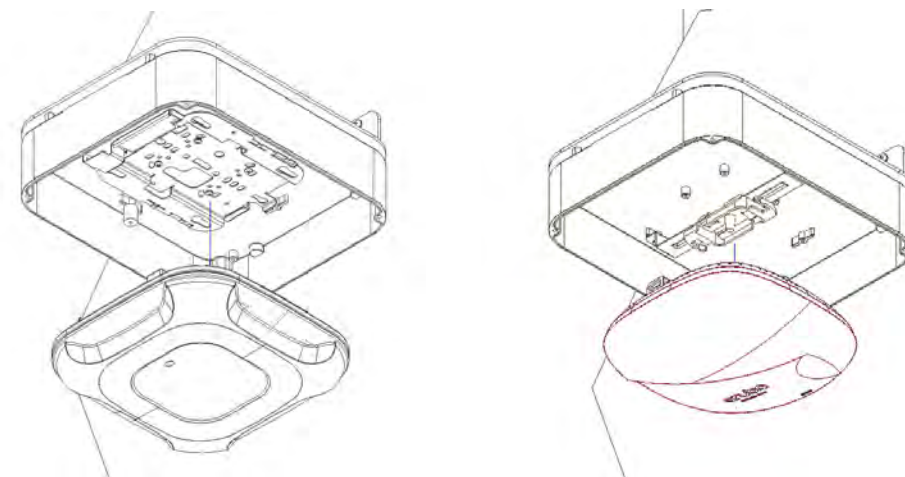

Figure 5
Step 5 – Attach the data and power cables to the access point and fasten the access point to its mounting bracket. After the access point is secured, attach antennas to the access point if required (Figure 5).